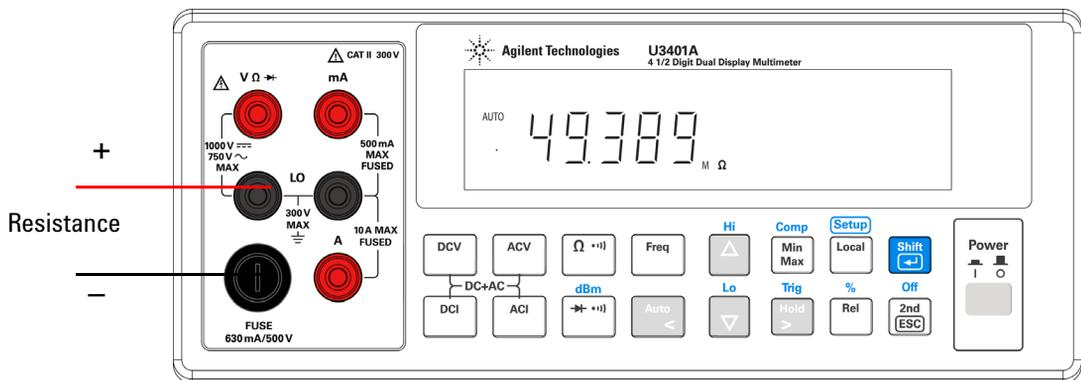

Figure 3-4 Connection terminal when measuring Resistance
- 1 Connect a resistor under test to V Ω \rightarrow and LO input terminals as shown in Figure 3-4.